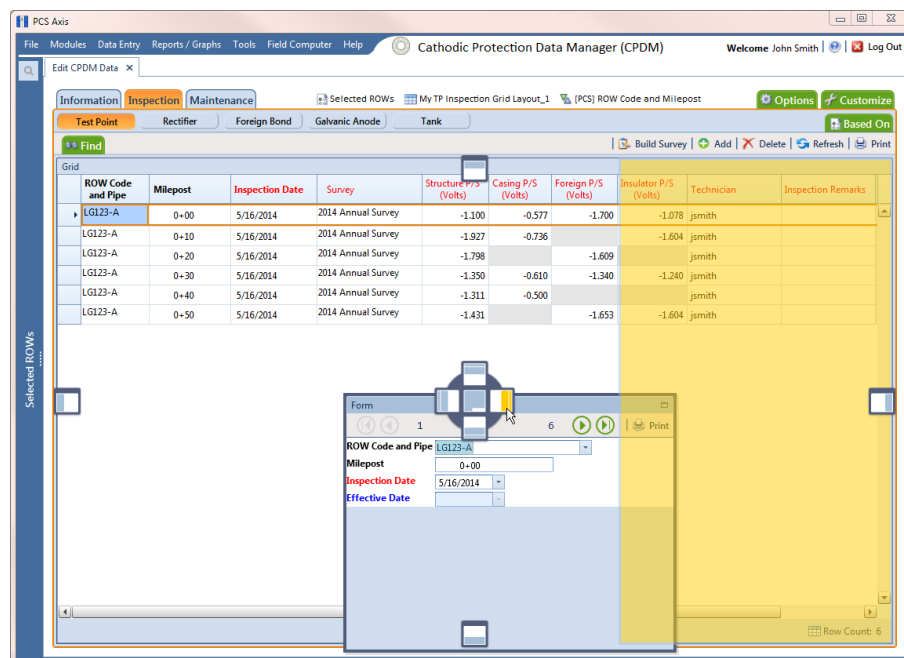

Figure 7-68. Arranging a Grid and Form
- Selecting the title bar of a form or grid and then dragging the panel displays a guide diamond. Drag the form or grid panel to the guide diamond to select where you want the panel to dock in the window. In the following example, the right guide in the diamond is selected for the new docking position as indicated by the yellow highlight color in both the guide diamond and window (Figure 7-68).